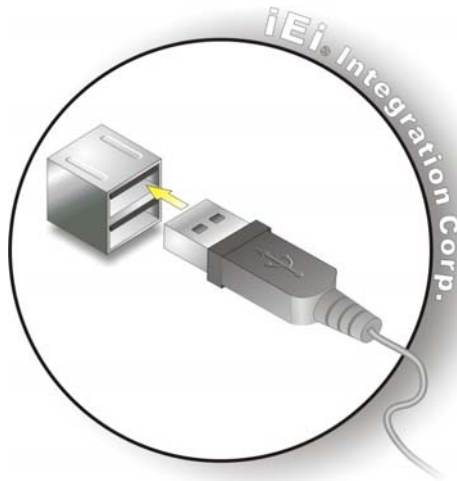

Figure 3-8: USB Device Connection
Step 2: **Align the connectors.** Align the USB device connector with one of the connectors on the AFL3-W07A-BT. See **Figure 3-8**.